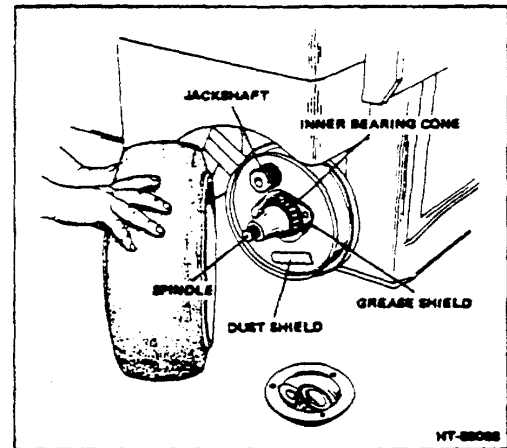

Figure 1-3. Removing Drive Wheel
- d. Remove inner bearing cone (Fig 1-3) and grease shield from spindle. (A grease shield is not used on Models 20/25/30 lift trucks.)